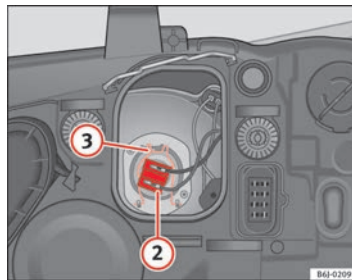

Fig. 143 Dipped beam headlights
- Remove the connector ⇒ fig. 143 **2** from the bulb.
- Unclip the retainer spring ⇒ fig. 143 **3** pressing inwards to the right.